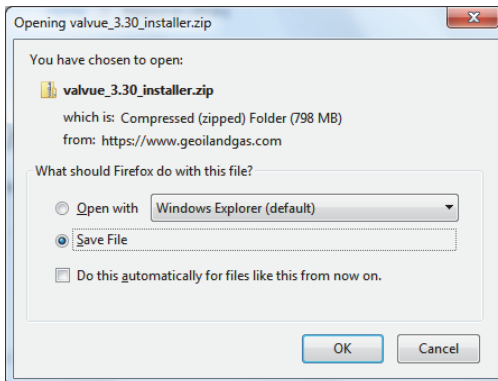

Figure 10 - Opening Dialog
2. Use the arrows to move through the selections. Select Download below ValVue and Figure 10 appears.